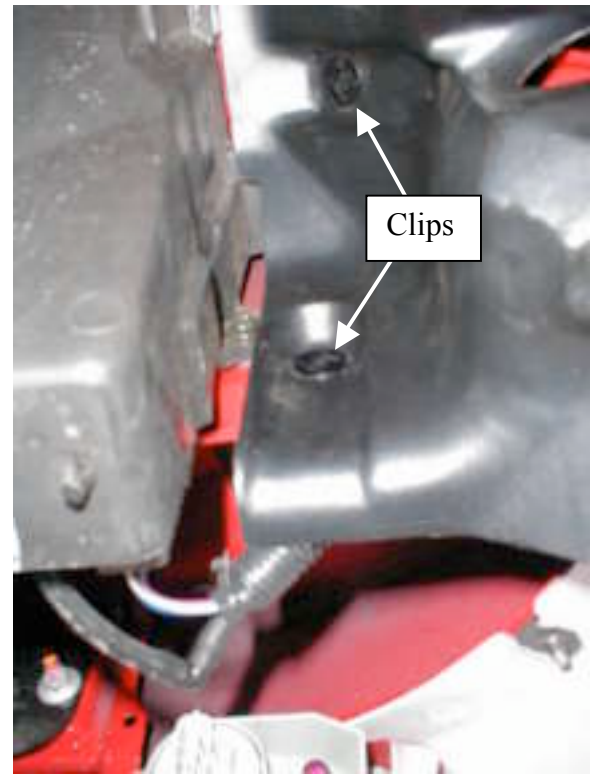

Figure 2
2. Remove the factory front valance as outlined in the Toyota Repair Manual. You may have to remove 2 clips from the fender liner to gain access to all of the bolts (Figure 2).